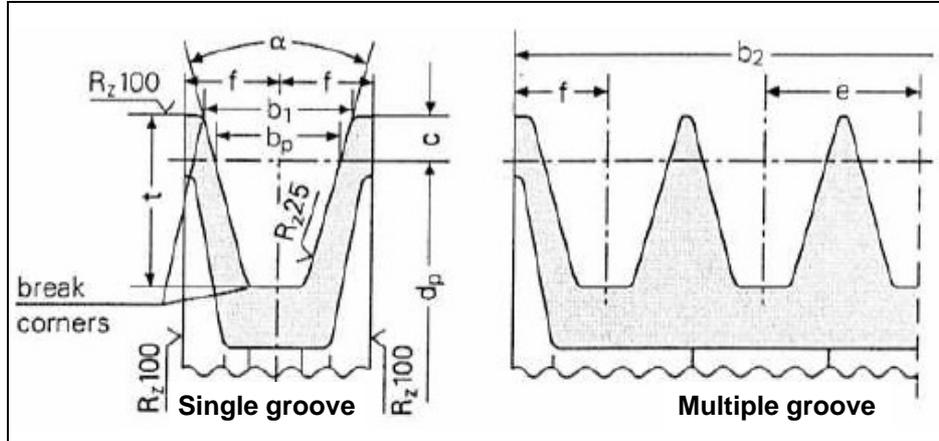

fig. 10
- a) Use pulleys with v-belts with the size of the groove required/recommended by the manufacturer of belt used. In the absence of directions, follow fig.10 and the table in fig.11.